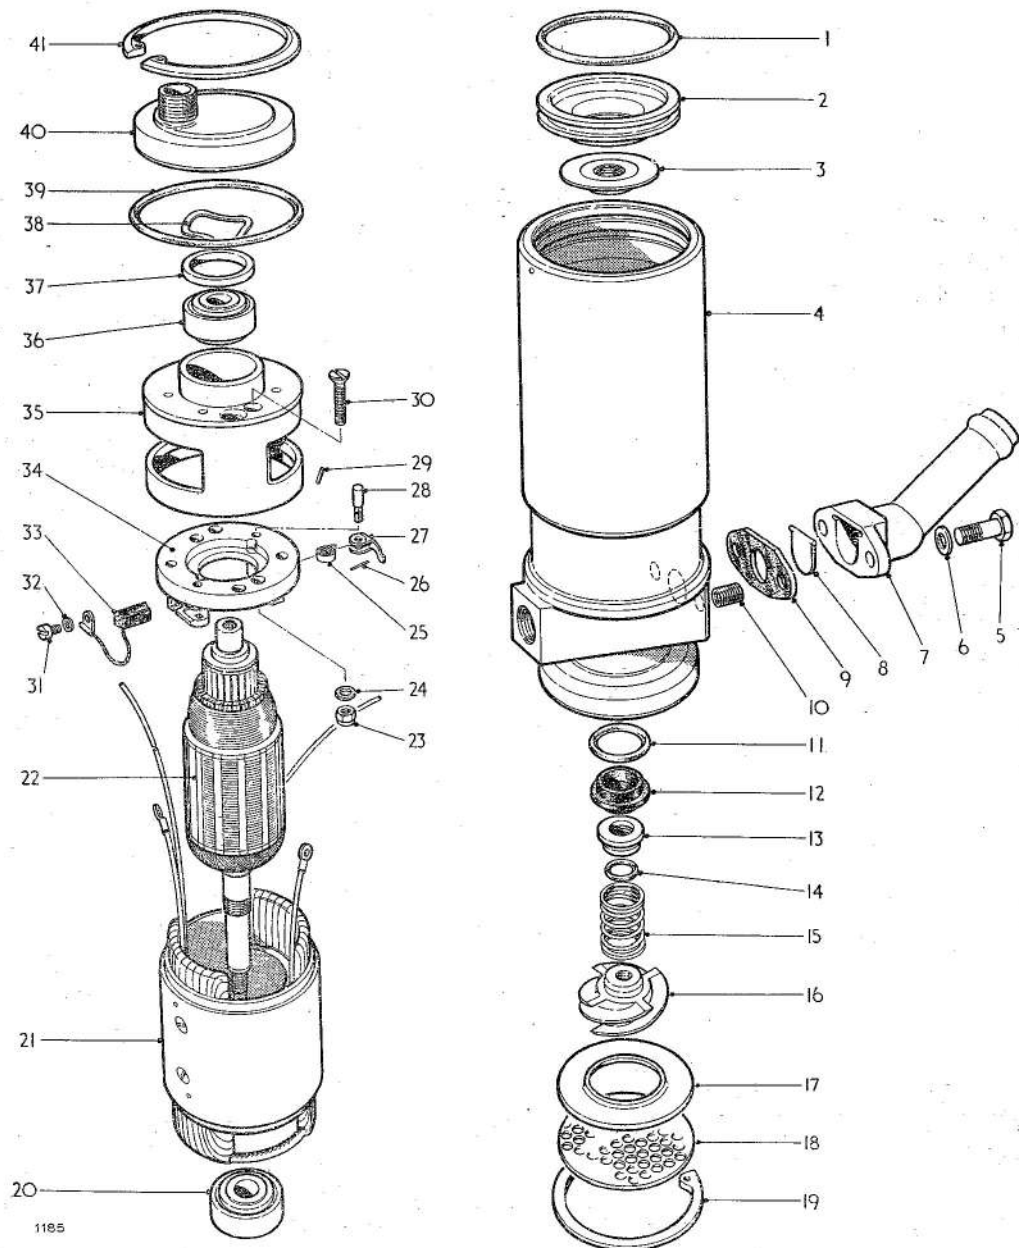

Fig. 1. Exploded view of pump and motor unit components
## Key to Fig. 1
4. Refer to fig. 1. Ascertain whether the pump has been returned with a history sheet or other documents which will highlight points needing particular attention. Observe absolute cleanliness of workbench and tools. Use the special tools provided whenever specified.